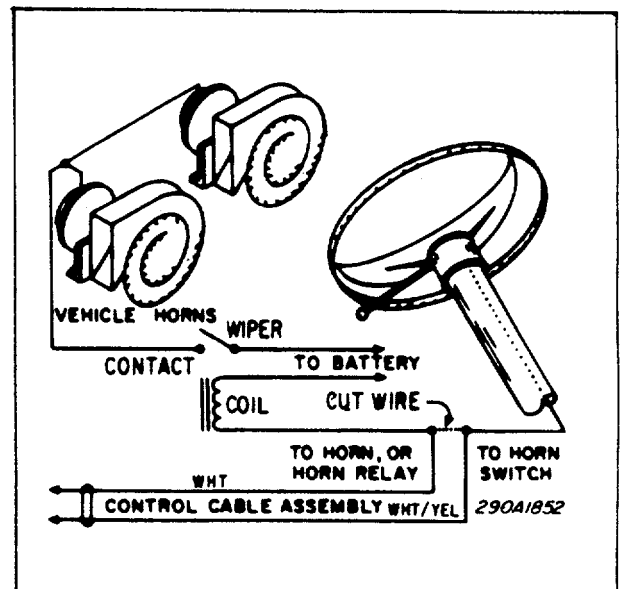

Figure 3-4. Horn Ring Connections.
2. See figure 3-4. Splice the white/yellow control cable wire (P5, pin 7) to the horn ring side of the wire that was cut in step 1. Insulate the splice with the wire nuts (supplied).
4. Obtain a SPST relay of sufficient contact current capacity to activate the vehicle horn. Refer to figure 3-4 while performing the following steps.